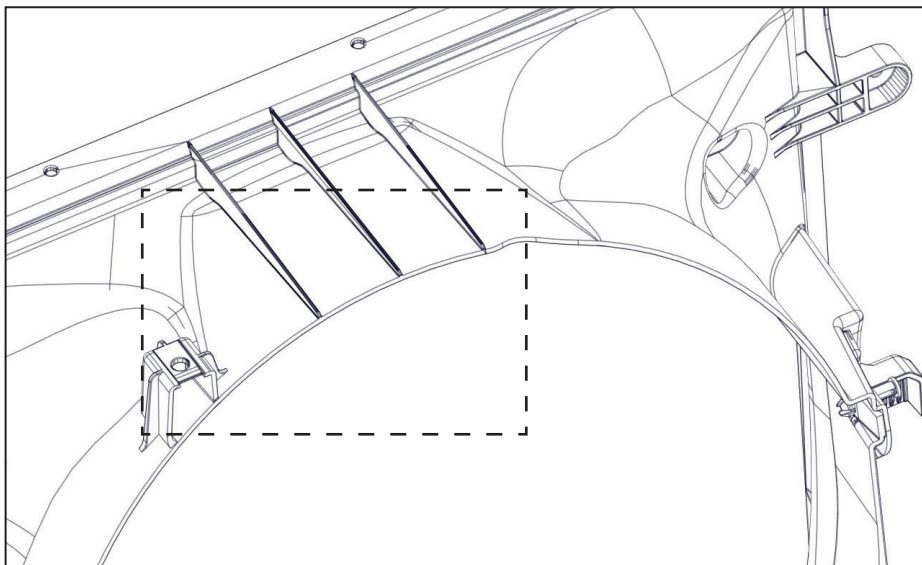
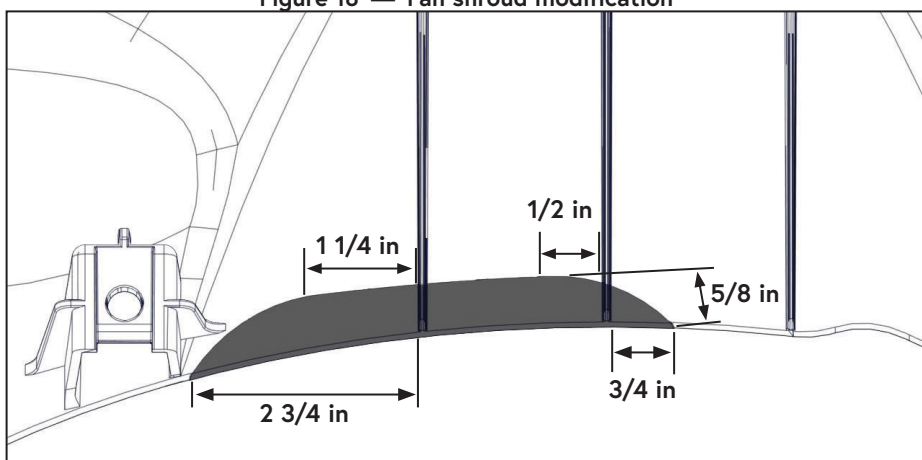

Figure 18 — Fan shroud modification
Figure 19 — Fan shroud modification
- ☐ Remove the shaded portion of the shroud to provide clearance for the upper coolant hose (Figure 18, Figure 19).